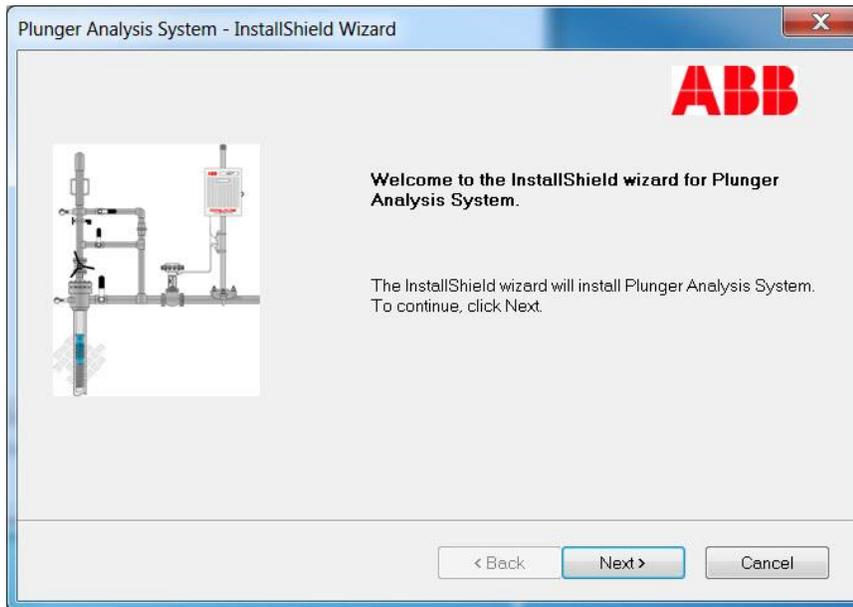

Figure 21: Plunger Analysis System InstallShield Wizard welcome screen
17) The welcome installation screen displays (Figure 21).